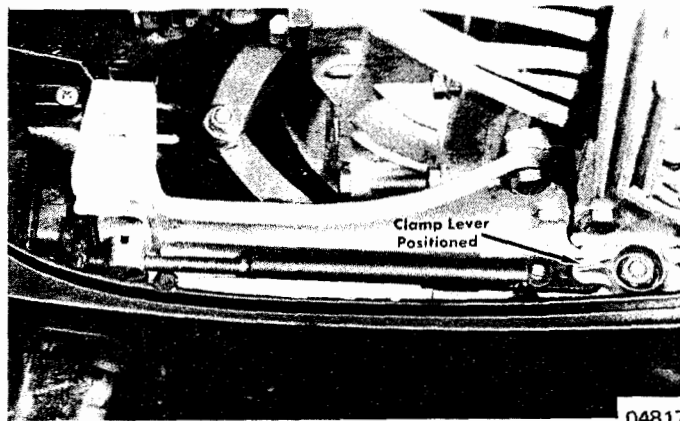
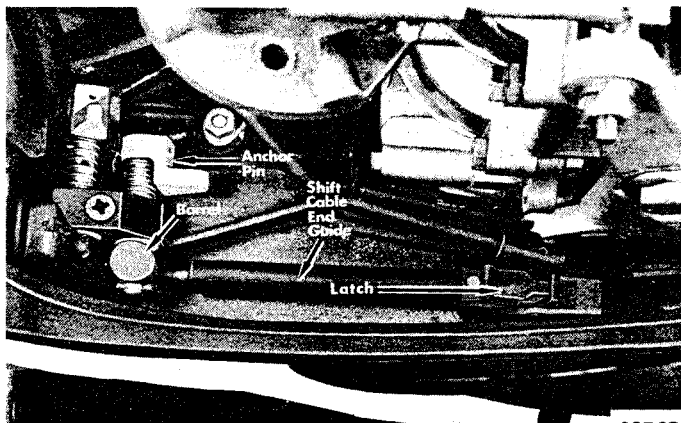

Figure 14. Clamp Lever Secured over Peg - Typical
Figure 15. Latch Secured over Peg - Typical
6. Secure clamp lever (Figure 14) or latch (Figure 15) over peg.